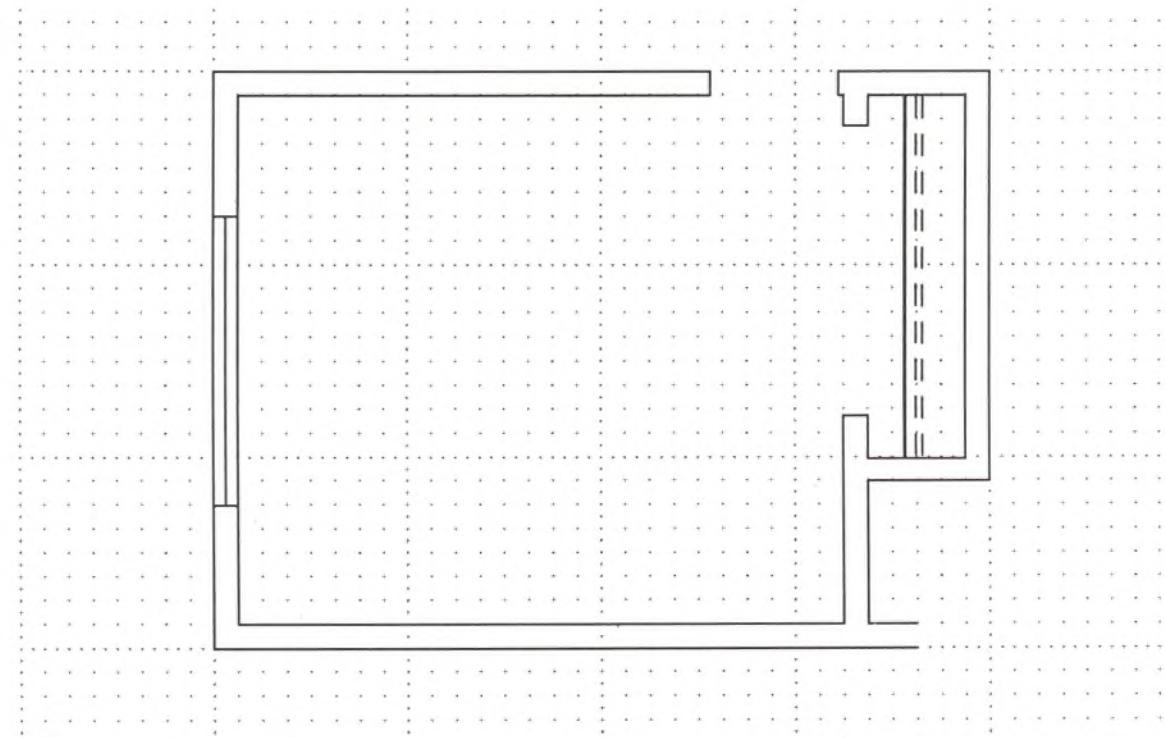

Fig. 5.3 Window and closet details have been added to the plan.
7. To indicate the window, draw a fine, medium-weight line through the marked-off window-opening space, to represent glass. In the closet, draw a line to indicate a shelf. Next to it, draw two light dashed (hidden) lines to indicate a clothes pole beneath, as in Fig. 5.3.
4. Referring to your sketch, determine the location of windows and doors. Using your scale, mark the placement of the openings along each wall line. Draw fine, 2H lines to represent glass where you have indicated windows. Your drawing is now in the stage of plan development shown in Fig. 5.3.